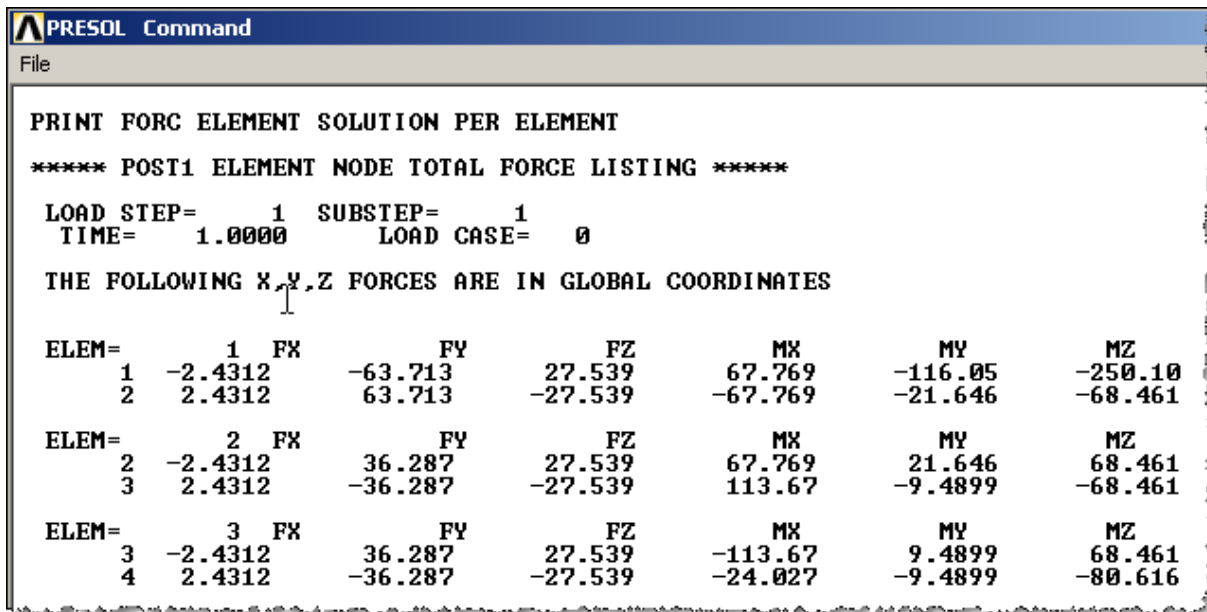

Figure 28 Individual member end reactions
3. Review the **PRESOL (P**rint **E**lement **S**olution) **Command** display of Figure 28.